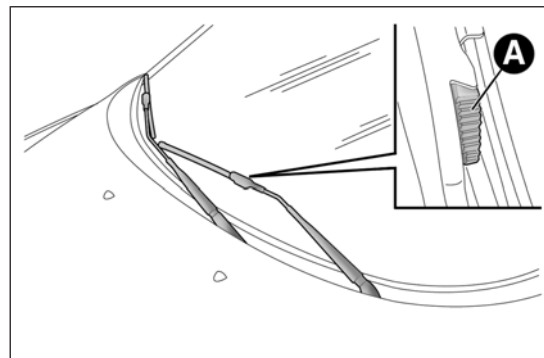

fig. 165
- ☐ raise the wiper arm, press tab A fig. 165 of the attachment spring and remove the blade from the arm;